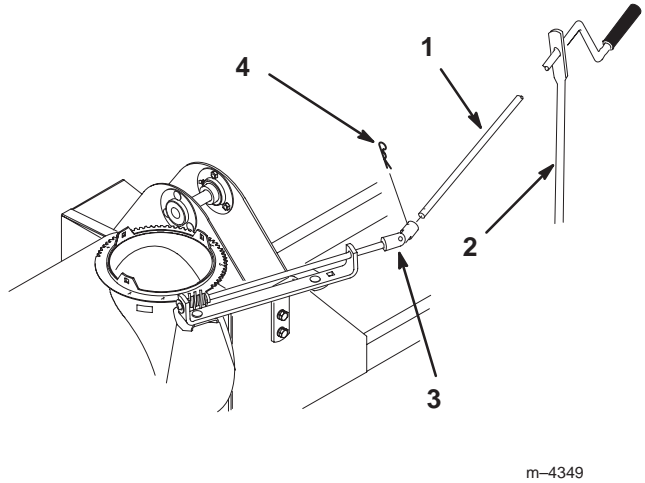

Figure 24
16. Slide the chute control rod through the hole in the end of the crank support and connect the end of the chute control rod to the universal joint on the snowthrower with a medium hairpin cotter (Fig. 24).